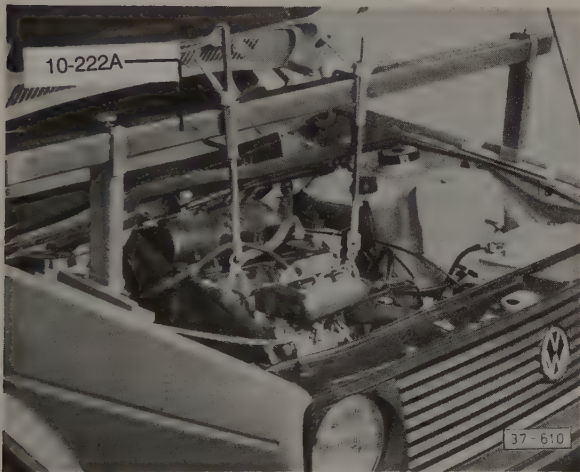

Fig. 5-1. Engine support installed. Volkswagen special tool no. 10-222A shown.
4. Install a device to support the engine, as shown in Fig. 5-1.